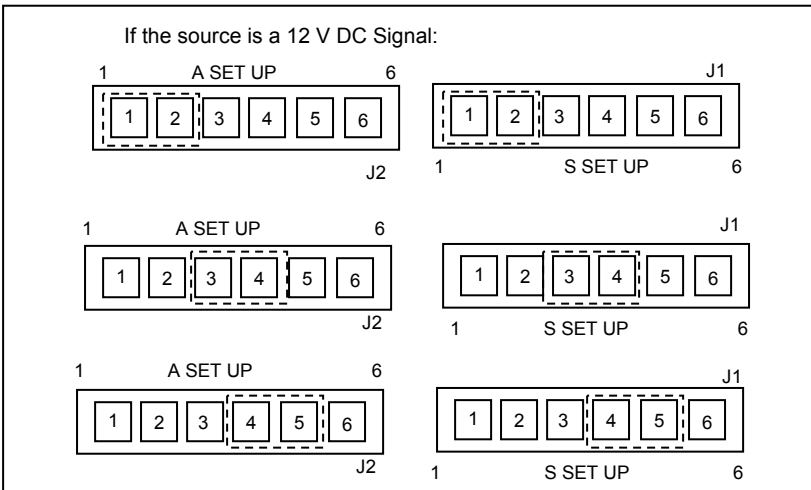

Figure 17
- For 12V DC output signals, position the jumpers on pins **1** and **2** of the **J1 (S SET UP)** and **J2 (A SET UP)** headers. (Refer to Figure 17)
- For 5V DC output signals, position the jumpers on pins **3** and **4** of the **J1 (S SET UP)** and **J2 (A SET UP)** headers. (Refer to Figure 17)
- For 10mA DC output signals, position the jumpers on pins **4** and **5** of the **J1 (S SET UP)** and **J2 (A SET UP)** headers. (Refer to Figure 17)